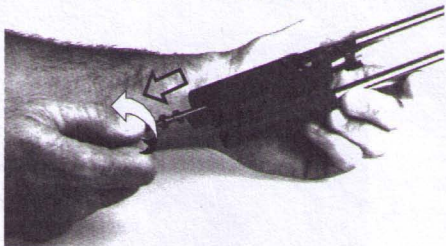

Fig. 25 Rotate firing pin
- With the right hand rotate the firing pin 90 degrees counterclockwise and remove it from the bolt (Fig.25).